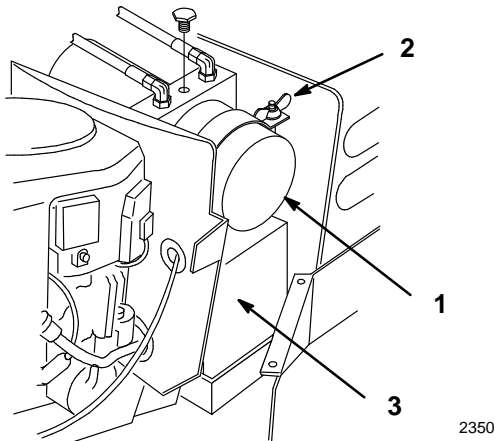

Figure 39
1. With the engine off, open the hood. To see the battery the power lift pump must first be moved (Fig. 39). Loosen wing nut and move pump to the side for battery access (Fig. 39).
5. Install power lift pump and tighten wing nut (Fig. 39).